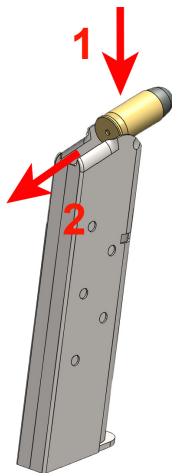

Figure 12
- Load the magazine by pressing a cartridge head (rear of cartridge) downward on the forward portion of the magazine follower (or downward on the case of the previously loaded cartridge) and sliding the cartridge fully under the lips of the magazine until the cartridge head is against the rear wall of the magazine – Figure 12. Repeat this procedure for the number of cartridges you wish to load, up to the magazine capacity.